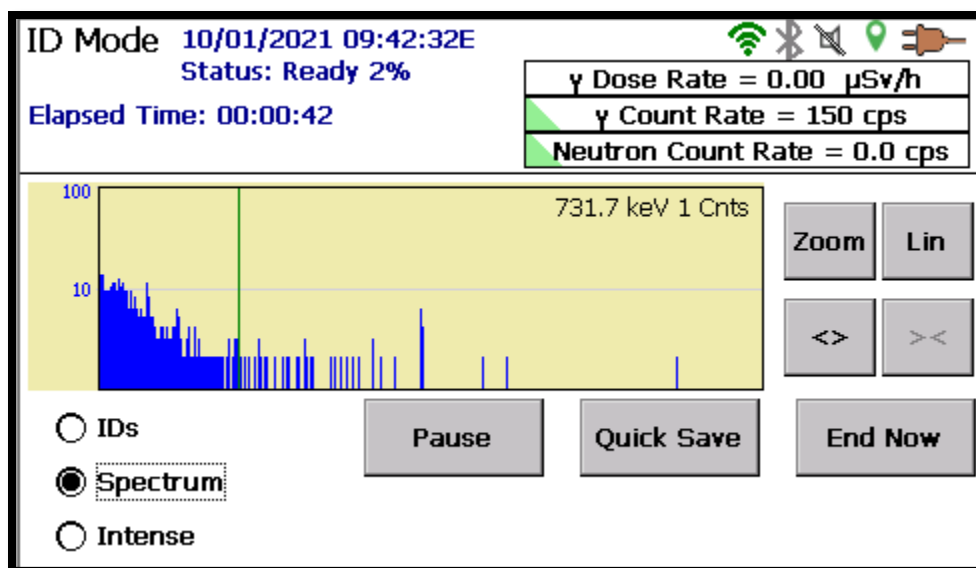
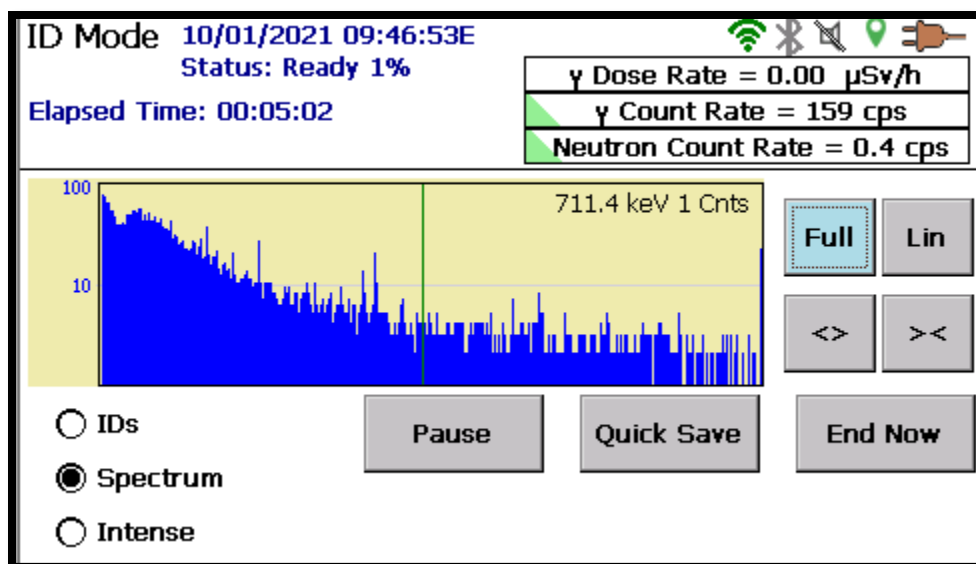

Figure 62. Entire Spectrum Displayed (Showing Marker Position and Channel Content)
Figure 63. Expanded Spectrum with Marker Near 713.2 keV (with Logarithmic Vertical Scaling)
The *Spectrum* view (Figure 62) shows the histogram of the gamma-ray energy spectrum being acquired in real time. To display the spectrum, simply tap the **Spectrum** radio button. This feature gives experienced users more information about the nuclides present so more informed decisions can be made about the material under investigation.
- **Full/Zoom** – In the expanded view, the **Full** button restores the display to 16K channels (see Figure 62). In the full view, the **Full** button changes to **Zoom** and vice versa. When the **Zoom** button is selected, it focuses the screen to the region surrounding the marker (see Figure 63). Tapping the **Full** button returns to the 16K-channel spectrum view. In this way, the user can easily look at the peaks in the spectrum in detail or move quickly from energy to energy in Full mode.